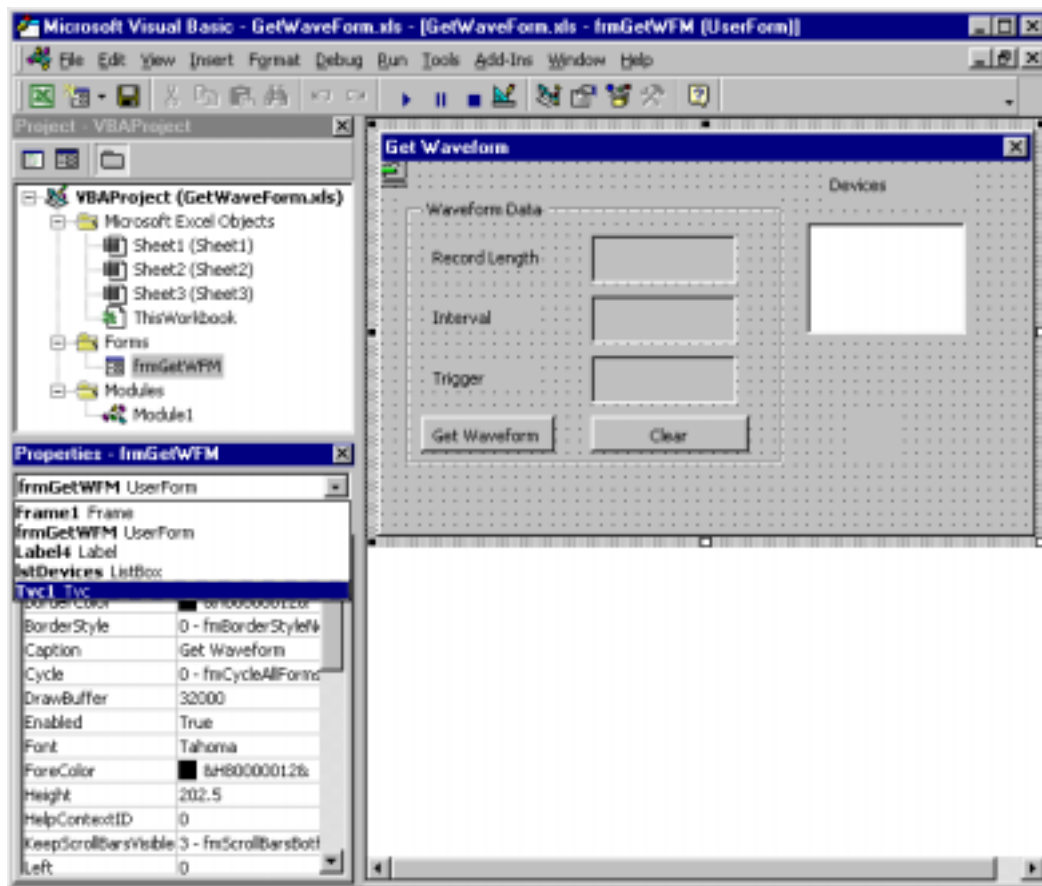
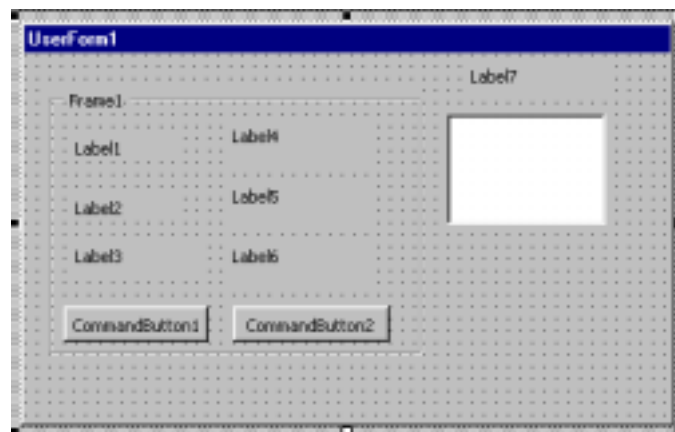

Figure 8: The form you will design for the GetWaveform example
Figure 11: Get Waveform form before changing default properties
Figure 8 shows the design-time interface that you will create. As you can see, the user interface consists of a VBA UserForm with one Frame on the left and one unframed List Box on the right. A Label appears above the List Box.
If you are already familiar with the Visual Basic for Applications design environment, the step-by-step instructions below may seem elementary. If so, you may wish to skip the instructions on how to build the UserForm and just refer to Figure 8 on page 45 and Table 7 on page 55 for details on building the user interface, then have a look at the code. Later chapters focus primarily on the VBA code and assume you are already familiar with VBA's visual editing tools for constructing dialog interfaces.
5. Similarly, add six **Labels** to Frame1 and a seventh **Label** above ListBox1, making sure that each control is placed as shown in Figure 11.
Table 7 summarizes all the changes to make in the Properties window to modify the UserForm from its appearance in Figure 11 to its final appearance in Figure 8.